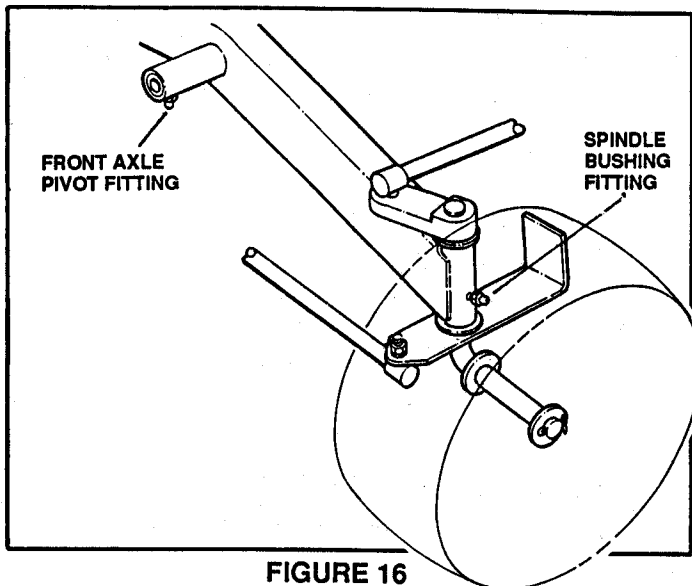

FIGURE 16
- **FRONT AXLE PIVOT & SPINDLE BUSHINGS:** Lubricate the center pivot fitting on underside of the front axle and each spindle fitting located on rear of front axle (toward operator). See Figure 16.